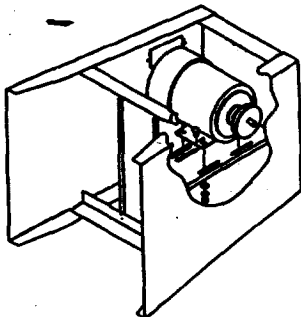

Figure 7 - Assemble Motor to Stand
- $\frac{13}{32}$ " Flat washer (4)
- $\frac{5}{16}$ " Lockwasher (4)
- $\frac{5}{16}$ "-18 Hex nut (4)
- Seat the motor on the vertical motor bracket and make sure the slots on the motor base plate are aligned with the slots on the vertical motor bracket (see Figure 7).